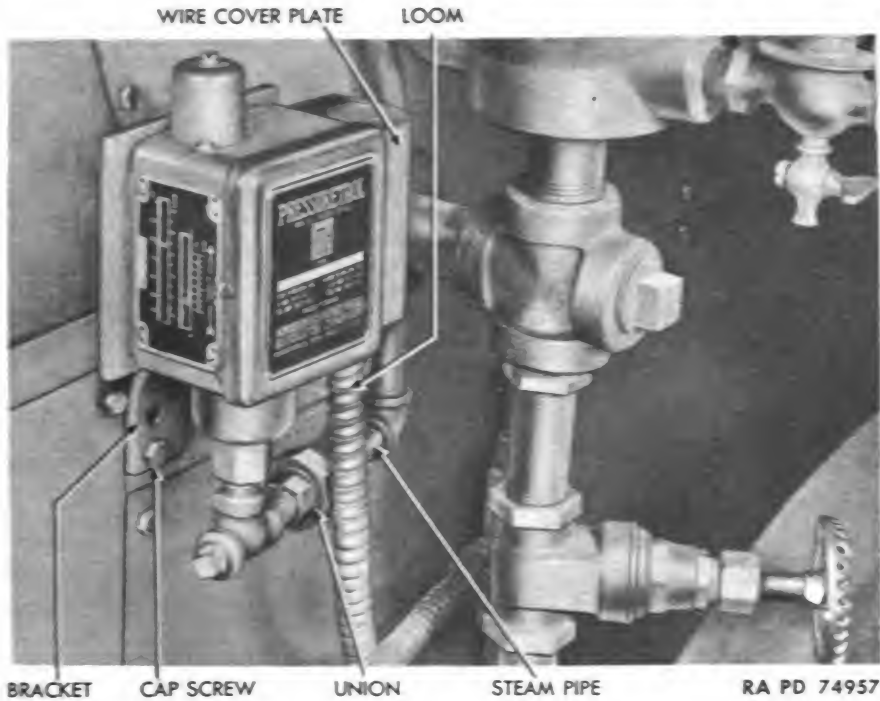

Figure 118 — Steam Generating Plant Pressuretrol
(1) REMOVAL (fig. 118).
(2) INSTALLATION (fig. 118).